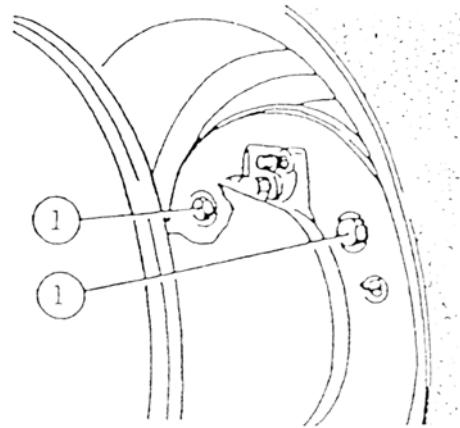

Fig.60
3. Turn the wheel by hand and fasten with the adjusting screw (Fig.60/1) in narrow directoin until the wheel is blocked, using a wrench size 22mm.